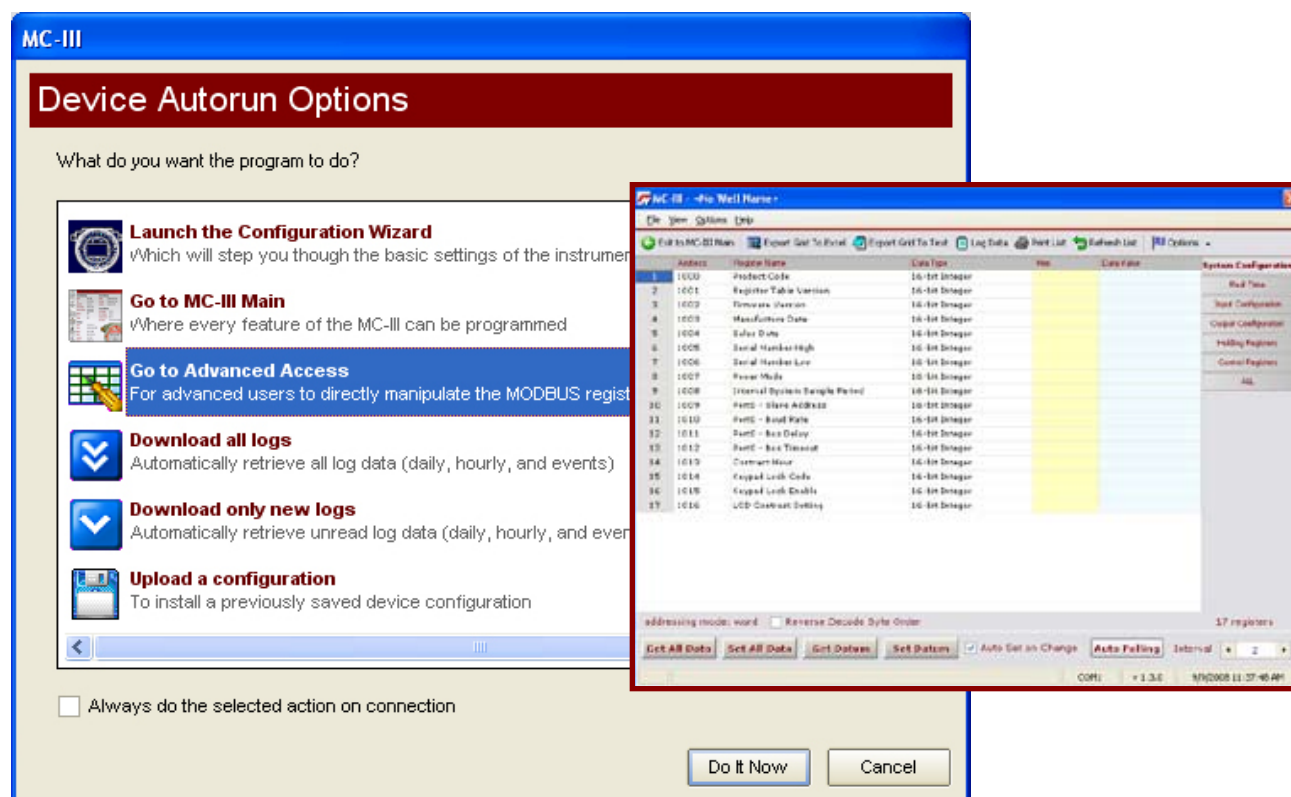

Figure 4.13—Advanced Access configuration option for system configurators and host programmers
- The Advanced screen (Figure 4.13, page 43) provides access to Modbus® registers that can be modified to change configuration parameters (recommended only for system configurators and host programmers).